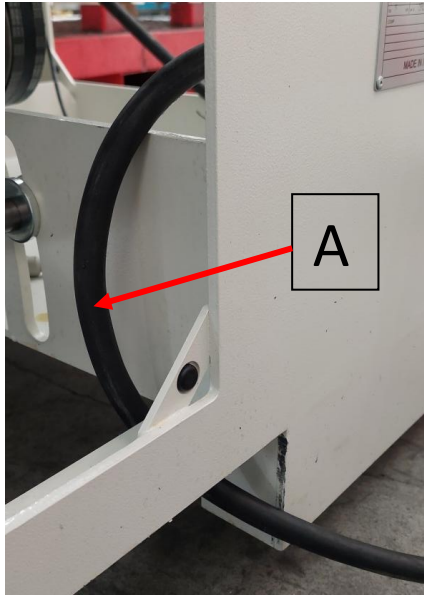

Fig. 4.3
- take off the cover of the terminal board (C fig. 4.3);
- insert the supply cable (A fig.4.3) into the frame and fix it as described in the image (B fig.4.3), insert it into the proper terminal screw (C fig. 4.3);
- connect the 3 phases to terminals L1-L2-L3 (fig. 4.3);
- if necessary connect neutral cable to terminal (N);
- clamp terminal screw (C fig. 4.3).